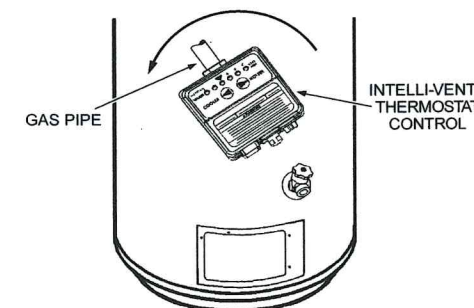

FIGURE 7.
10. Using your hand, grasp the straight pipe attached to the Intelli-vent™ Thermostat Control, (183760 Series) and rotate it counter-clockwise until the valve is fully disconnected from the water heater, see Figure 7.